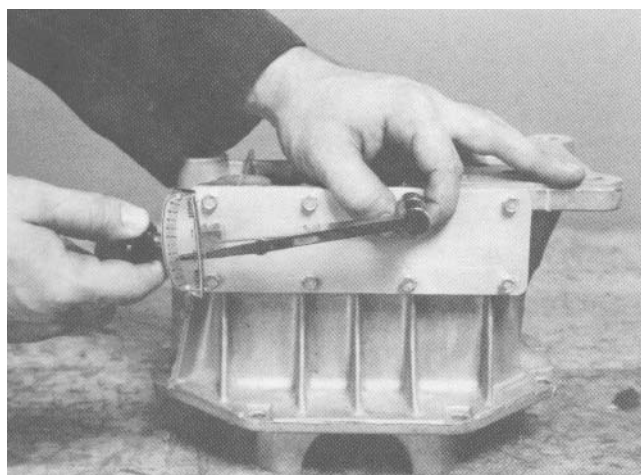

Figure 46
12. Install the spur gear cover. Use Permatex No. 2 or silicone sealant when installing the cover. Tighten the capscrews to a torque of 25–40 in-lbs (3–4.5 Nm) (Fig. 46).